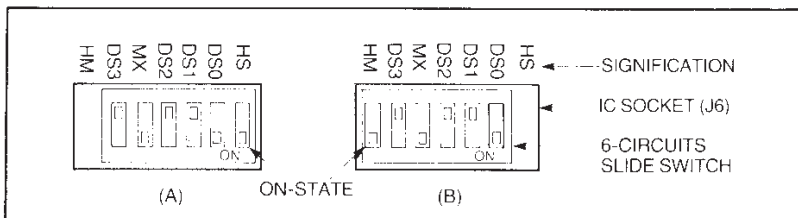

Figure 4. Mounting Position of the Switch.
Now that we have had a brief look at the disk drive it is time to connect it to the host computer. In this case it is the DRAGON 32/64 computer fitted with the DELTA Disk System. Firstly, check that your drive or drives are addressed correctly as drive 0 and drive 1. This addressing can be checked in the case of Cumana drives by removing the drive cover and looking at the DIL switch that is located towards the rear right hand edge of the drive electronics PCB. The following switches should be forward (ON) for drive 0. This is normally called the boot drive. Switches marked DS0, HS and MX. On a dual unit the second drive will have switches DS1, HS and MX forward. All other switches should be made towards the rear of the drive or (OFF). In this configuration only the head of the selected drive will load when disk access is required. If it is desired to have all the heads loaded when the motors start up then the entire switch block should be removed and refitted one space to the left, on each drive. The following switch setting will then apply. Drive 0 will have DS0, HM and MX forward. Drive 1 on a dual drive system will have DS1, HM and MX forward. It is fairly easy to see if the settings have been made correctly. On a single drive system there will be two switches forward and four switches backwards whilst in a dual drive system there will be three switches forward and three switches backwards on each drive. See Figure 4 for Cumana switch settings.